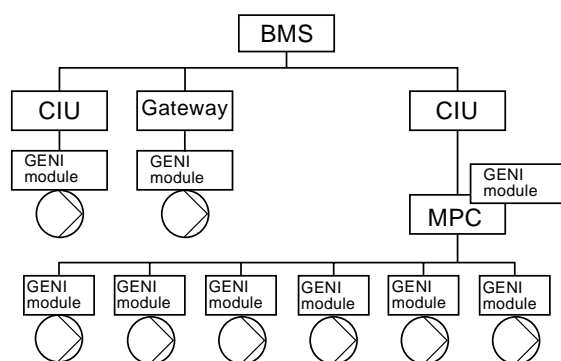

Fig. 16 MAGNA 25-40, 25-60, 25-80, 25-100, 32-40, 32-60, 32-80, 32-100, 40-60, 40-80, 40-100(D), 50-100 in BMS systems
- Grundfos MAGNA 25-40, 25-60, 25-80, 25-100, 32-40, 32-60, 32-80, 32-100, 40-60, 40-80, 40-100(D), 50-100. See fig. 16.